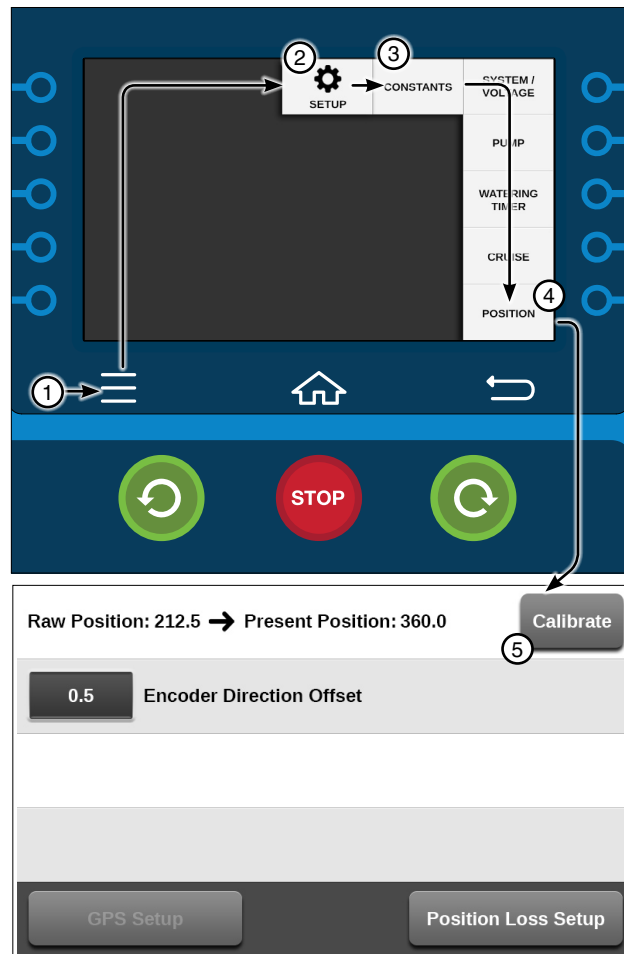

Figure 34-1 1. Menu 2. Setup 3. Constants 4. Position 5. Calibrate
1. Push **Menu**, **Setup**, **Constants**, and **Position** to display the Position screen. Refer to Figure 34-1.